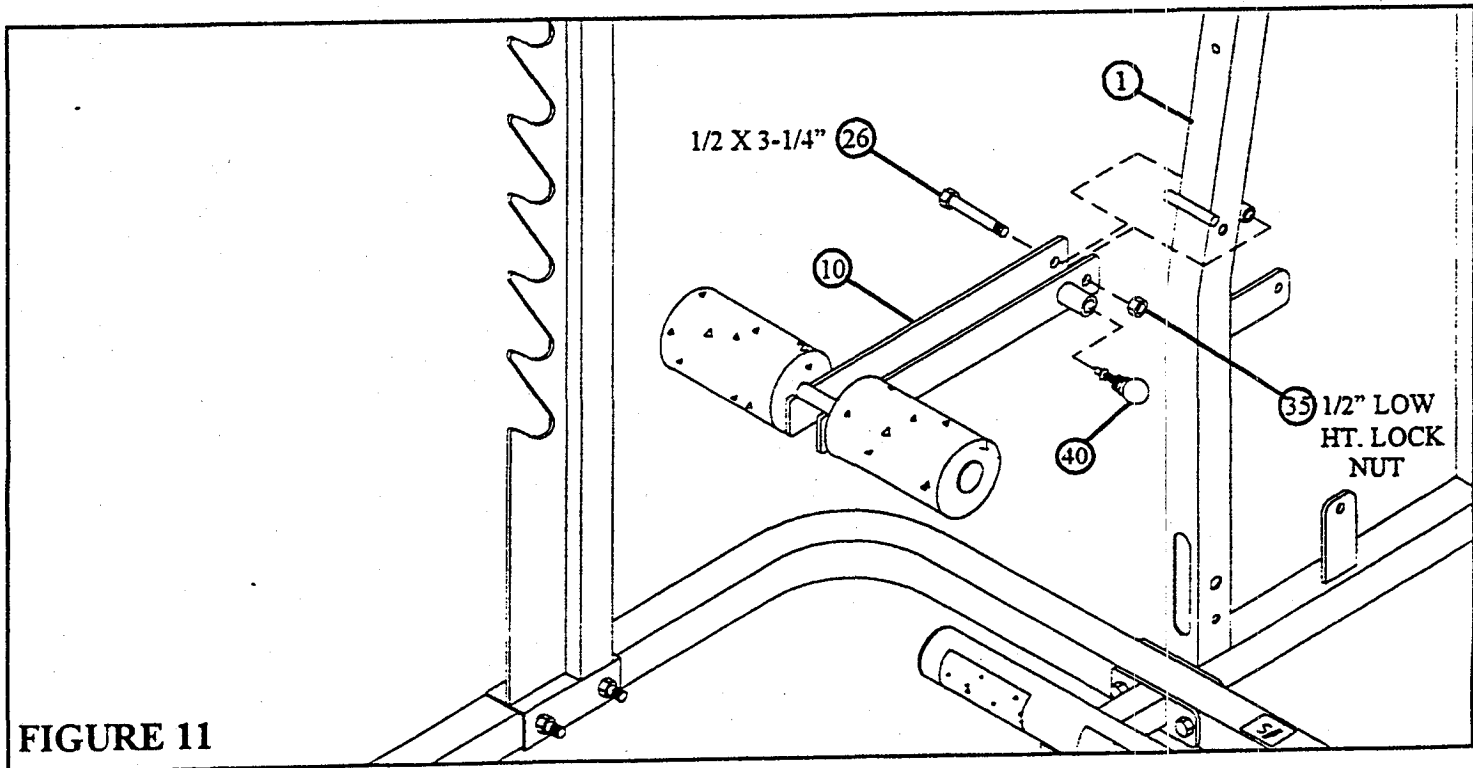

FIGURE 11
- **SECURELY** assemble the SWIVEL KNEE SUPPORT (10) to the UPRIGHT FRAME (1) using one 1/2 X 3-1/4" BOLT (26) and one 1/2" LOW HT. LOCKNUT (35). (NOTE: Do not overtighten this connection, the SWIVEL KNEE SUPPORT should rotate freely.) See FIGURE 11.
- **SECURELY** assemble the SPRING PIN ASSEMBLY (40) to the SWIVEL KNEE SUPPORT (10) as shown in FIGURE 11.